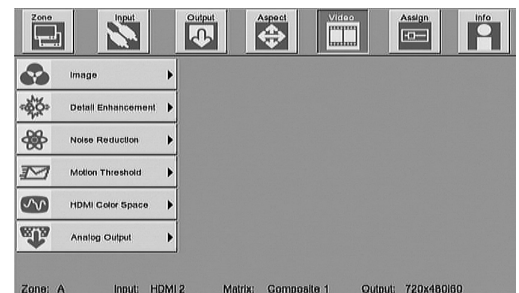

Figure 55
1. Use the ▶RIGHT Push-button to select the Video Icon at the top of the menu. Refer to figure 55.